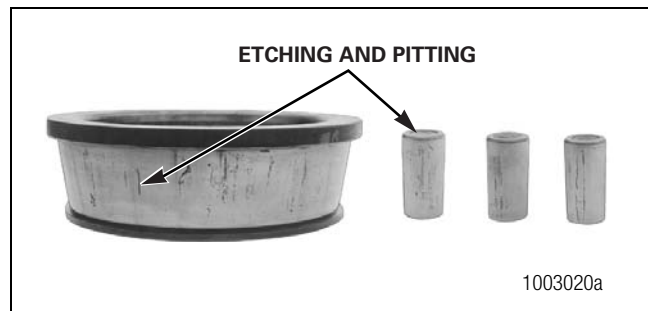

Figure 10.4
- There is damage on the rollers and on the surfaces of the cup and cone inner race that touch the rollers. Figure 10.4.